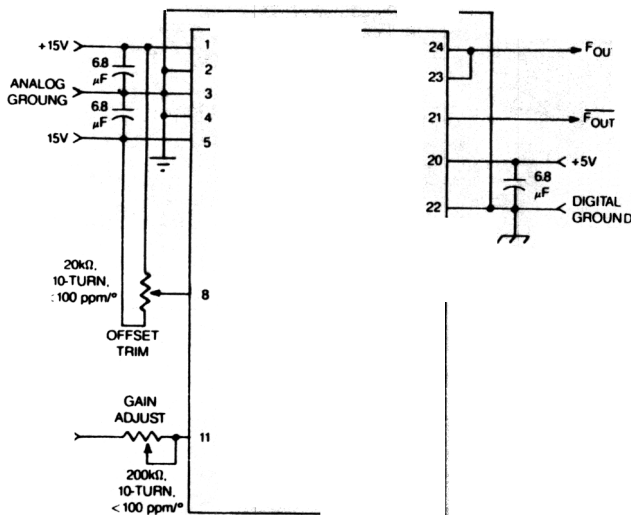

Figure 2. Typical Circuit Configuration
**GENERAL CONSIDERATIONS** — Figure 2 depicts a typical circuit configuration for the MD39XX. The layout should be clean, with output pulses routed as far away from the input analog signals as possible. To obtain maximum performance, bypass capacitors, as shown in Figure 2, should be mounted right at the appropriate pins of the MD39XX.